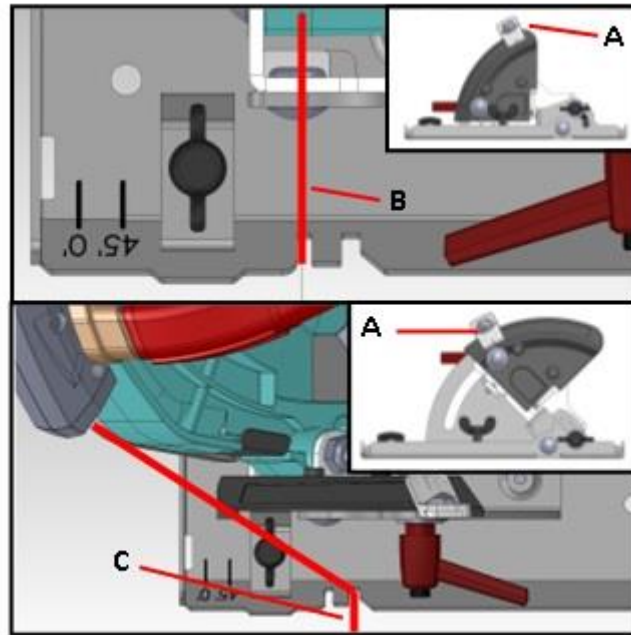

Fig.9
2. Laser guide automatically follows bevel angle. The laser will align with notch (B) at 0° and will align with notch (C) at 45°. **Fig. 9.**